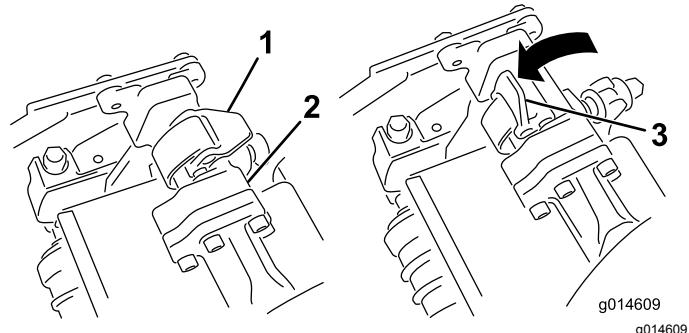
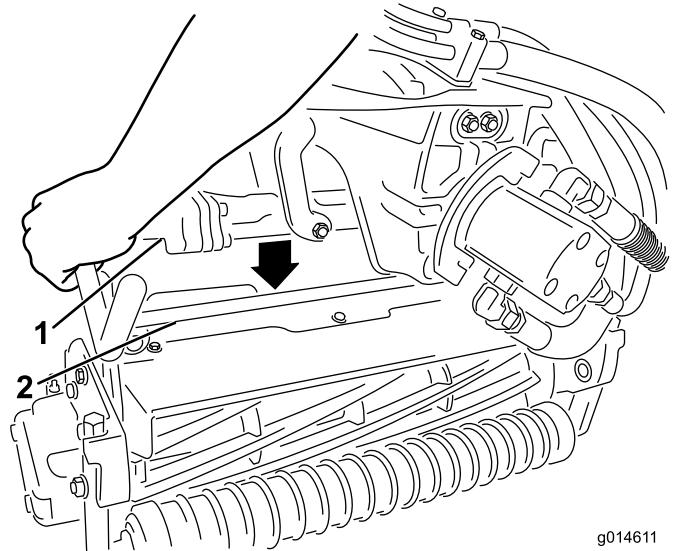

Figure 44
Figure 45
3. With the latches on the suspension-arm bar pointing up (i.e., open) (Figure 44), push the suspension arm down so that the bar fits over the top of the cutting unit (Figure 45).
4. Close the latches down and around the cutting-unit bar and lock them in place (Figure 44).
4. Open the latches on the suspension-arm bar of the cutting unit you are removing (Figure 44).